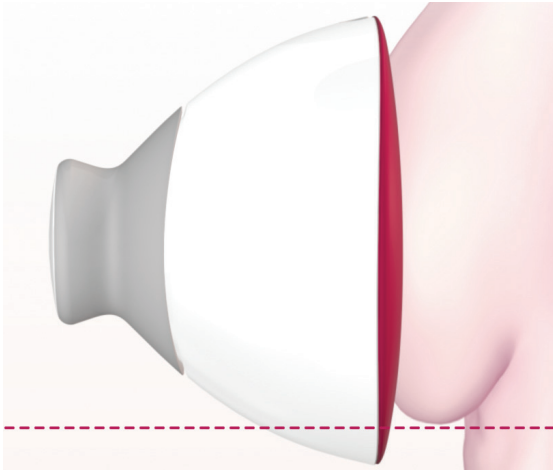

Fig. 7: Correctly applied device
- apply the device perpendicular to the patient's breast **(see Fig. 7)**;